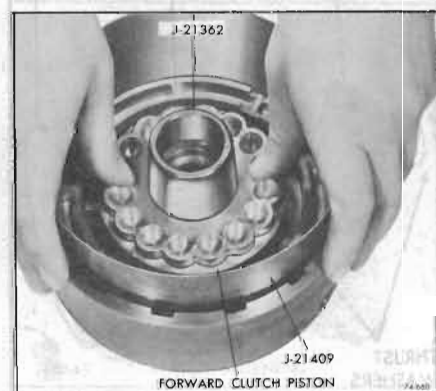

Figure 74-660
3. Place Seal Protector Tool J-21362, over clutch hub and install outer clutch piston Seal Protector J-21409, into clutch drum and install piston. See Figure 74-660.